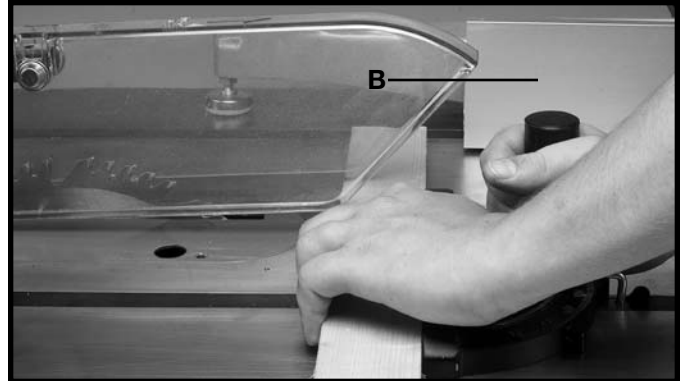

Fig. 90
When using the fence as a cut-off gage, position the fence (A) to the front as shown in Fig. 88, or purchase a 12" long fence (B), (Delta Cat. No. 34-878), as shown in Fig. 89. A typical operation using the 12" long fence (B) as a cut-off gage is shown in Fig. 90.